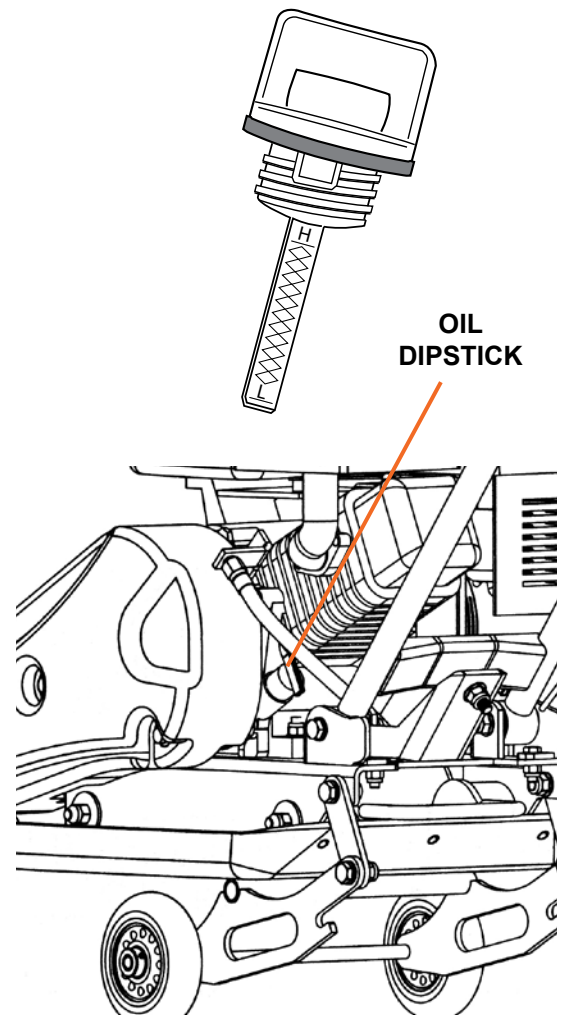

Figure 5
1. Add oil according to engine manual. Do not overfill. Use SAE30 engine oil. **Do not mix oil with gasoline.** Oil level must be full. Check the oil level by removing the dipstick (see Figure 5).